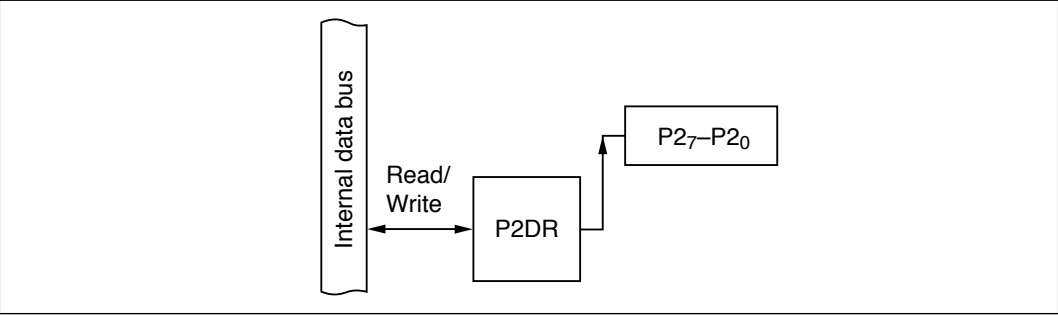

Figure 9-14 Output Port (Modes 2 and 7)
(3) Output Port (Modes 2 and 7): Figure 9-14 shows a block diagram illustrating the general-purpose output function. Table 9-9 indicates register read/write data. The value written in the port 2 data register (P2DR) is output at the pin. When read, P2DR returns the value written in P2DR.